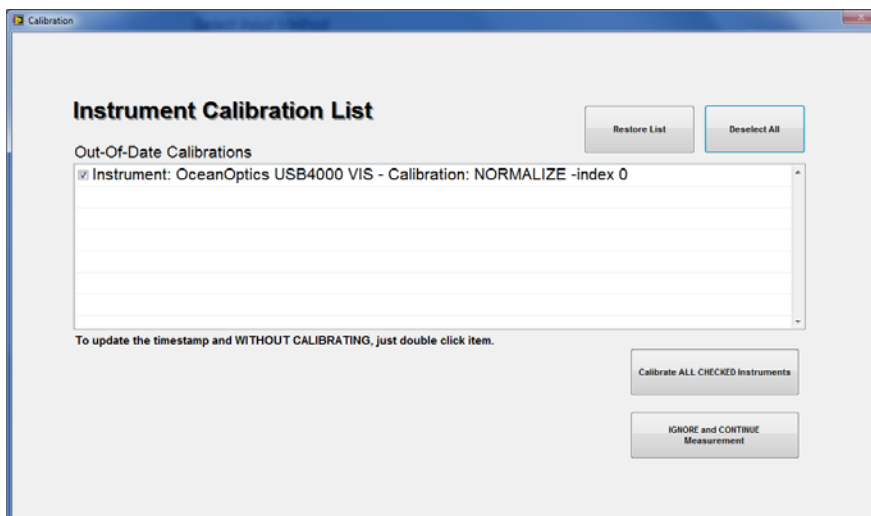

Figure 8. Calibration Prompt Screen.
2. Click the **Calibrate ALL CHECKED Instruments** button to begin the calibration process (Fig. 8). The logger moves the USB4000 integrating sphere over the white calibration standard and lowers it until it touches. It will take some preliminary measurements to establish the integrating time based on an 80% saturation level of the total response. These measurements take about 0.45–0.55 seconds for the current dual-light source configuration, assuming the light bulbs are new.